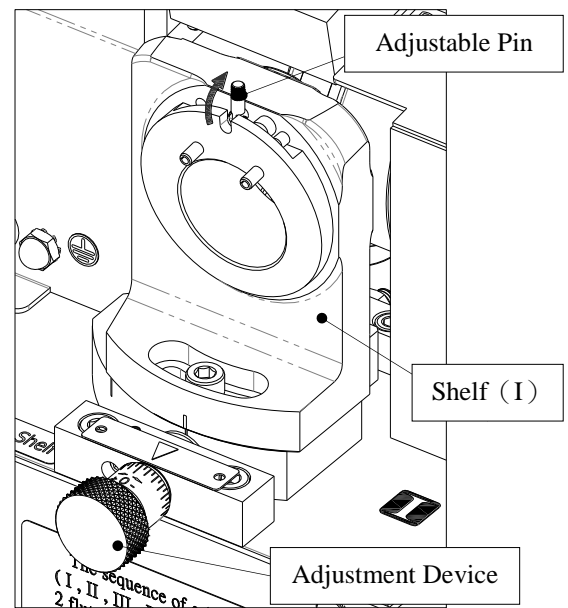
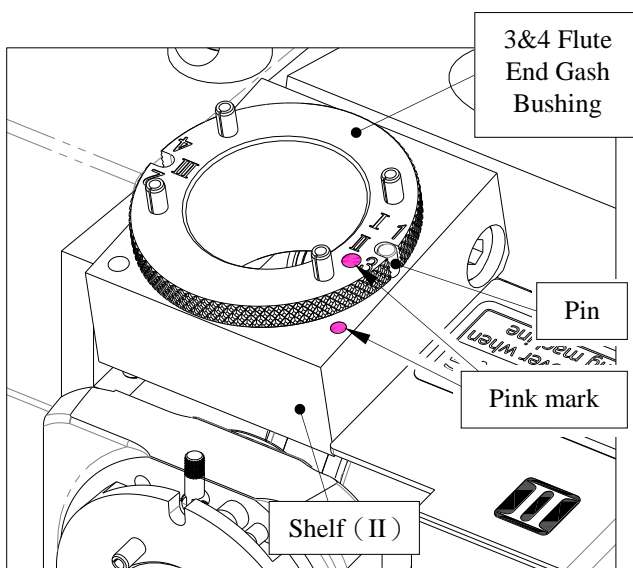

Fig. 16-1
Fig. 16-2
1. Shelf (I) (Fig. 16-1)
- ① Trigger up the adjustable pin on Shelf (I) from the bottom to top.
- ② Adjust the Cutting face adjustment device to “0”, after finishing the whole sharpening procedure, then adjust this device according to your needs. (See page 11 “XIII. End Mill—The use of the Cutting Face Adjustment Device”)
2. Shelf (II) (Fig. 16-2)